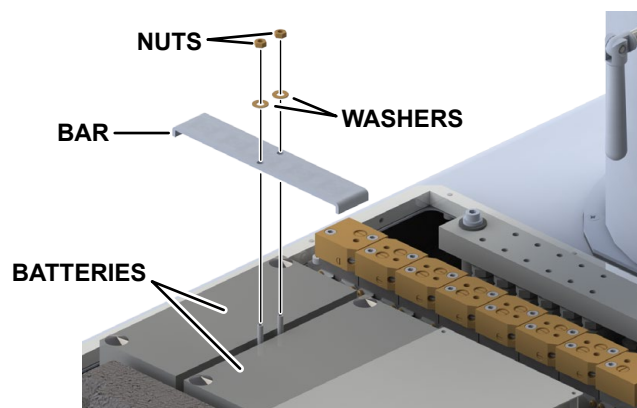

Figure 34. Battery Hold Down Bar
3. Loosen and remove the nuts and washers that secure the battery hold-down bar in place over the batteries (Figure 34). Remove the battery hold-down bar.